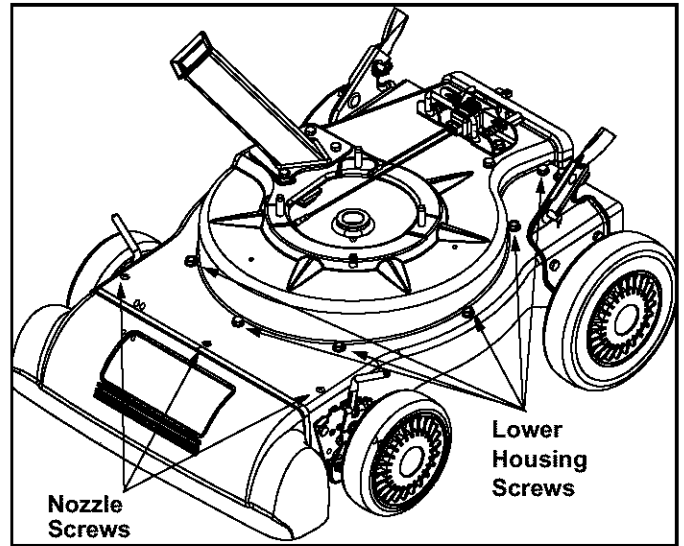

Figure 14
4. Remove the three screws on the upper housing that secure the nozzle cover and the nine screws that secure the lower housing to the upper housing. See Figure 14.